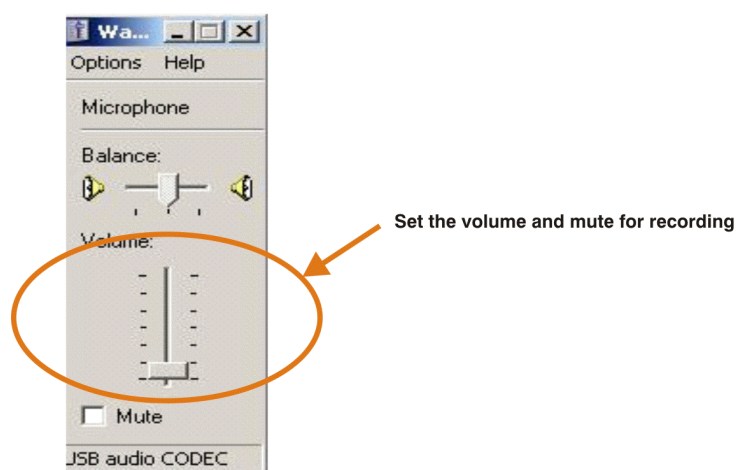

Figure 3-11. Microphone Volume Windows for Record Volume Setting (Windows XP)
3. Set the microphone volume and the recording mute level from -12 dB to $+30$ dB, as shown in Figure 3-11. The initial volume setting upon installation is approximately $+8$ dB.